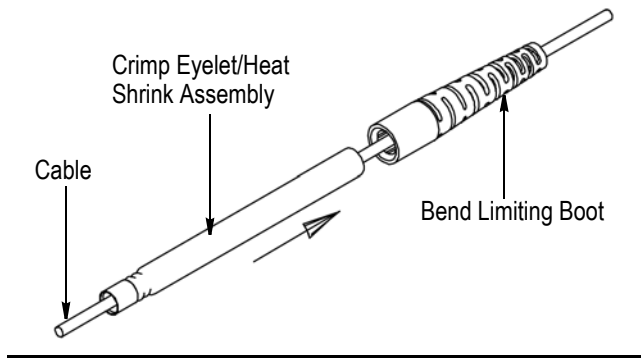

Figure 2
1. Slide the boot (small diameter end first) onto the cable. Then slide the crimp eyelet/heat shrink assembly (heat shrink end first) onto the cable. Refer to Figure 2.